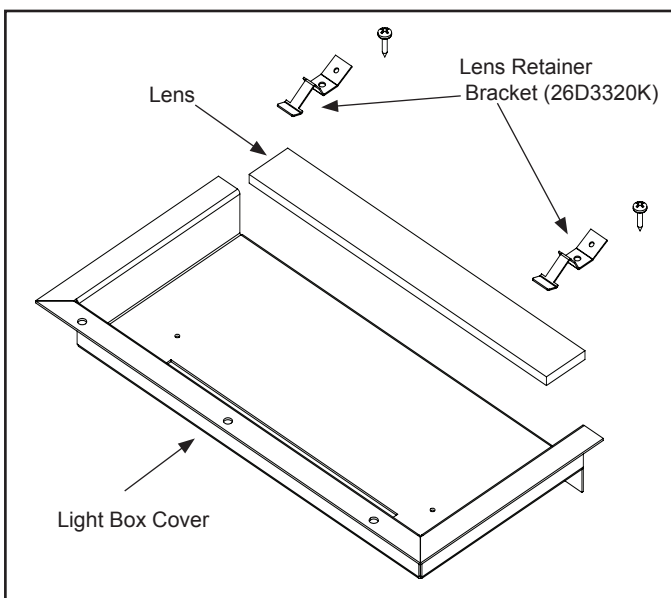

Figure 10.9 Lense Retainer Bracket Removal
4. The light lenses, lens retainer brackets and screws are included in the Homeowner's Manual packet. Install the light lenses into the light cover box and secure with the lens retainer brackets and screws as shown in Figure 10.9.